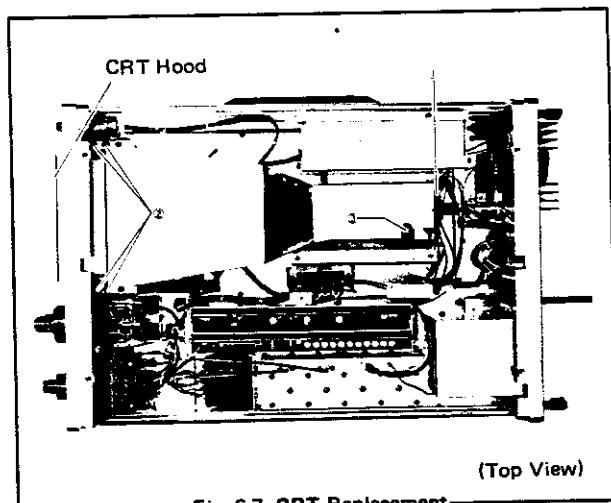

Fig. 6-7 CRT Replacement
- 4) Remove **CRT** socket ① in [Fig. 6-7].
- 5) Loosen 4 pieces of the screw for **CRT** band ② in [Fig. 6-7].
- 6) Loosen the screw ③ in [Fig. 6-7].
- 8) Take out **CRT** pressing the arrow marked part in [Fig. 6-7].